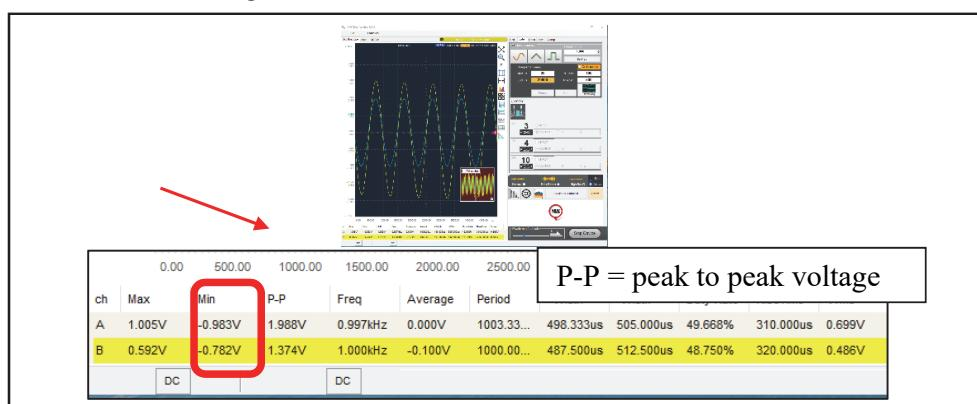

Fig. 17
- 5.3.14 There are three ways to monitor the signal changes during the frequency sweeping. One is to look at the waveform, second way is the look at the information on bottom as shown in Fig. 17.
- 5.3.16 Make use of the frequency sweep function, set frequency function and voltage (P-P, peak to peak) information as shown in Fig. 17, to find the voltage at a desire frequency. For example, we can find out what measuring voltage in Channel-B at 2.01 kHz. You could refer to the video (video9-measuring\_voltage\_at\_a\_frequency.mp4).